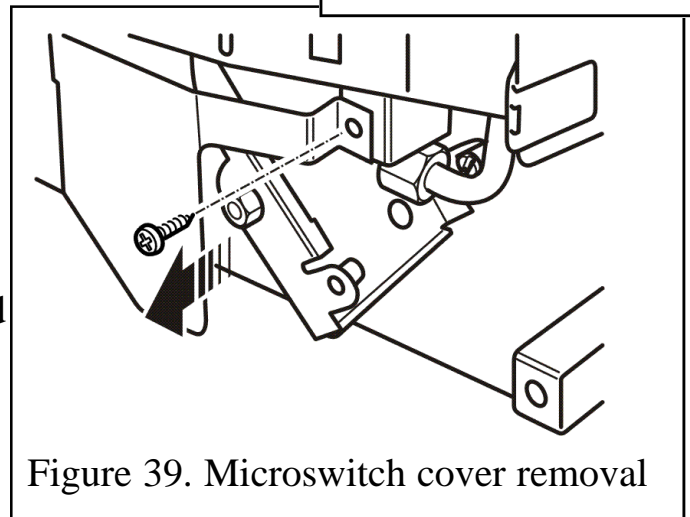

Figure 39. Microswitch cover removal
(See figures 39 & 40)
2. Detach the microswitch cover by removing one screw and pulling clear of the location lug (See figure 39).
(See figures 39, 40 & 41).
location lug (See figure 39).